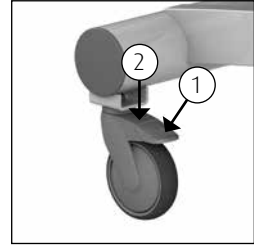

Figure 1 Wheel blocking.
- The brake can be applied on the shower stretcher / dressing table by pushing the blue lip (1) on the wheel downwards (See figure 1).
- In order to take the shower stretcher / dressing table off the brake, the same lip on the wheel must be moved upwards by tapping the upper side of the lip (2) (See figure 1).